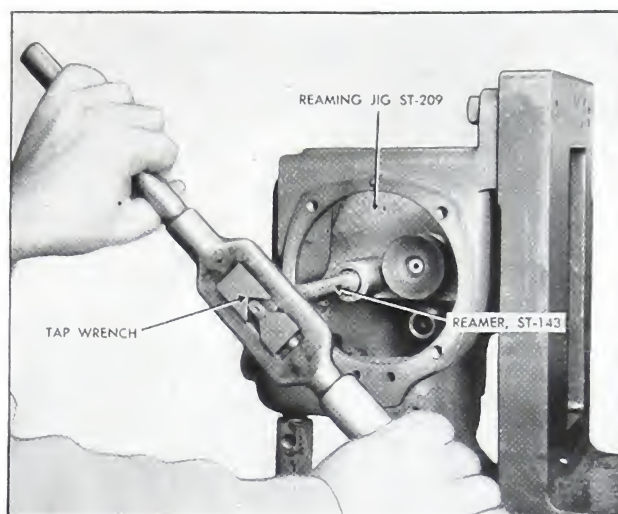

Fig. 5-109. Reaming cam rocker lever bushing
9. Remove Fixture, ST-109, and install Fixture, ST-209, in main housing. Locate with knurled hand nut and plunger lever pin. Ream with bottom reamer, ST-143, and drive with $\frac{1}{2}$ " square shank socket and T wrench as shown in Fig. 5-109.